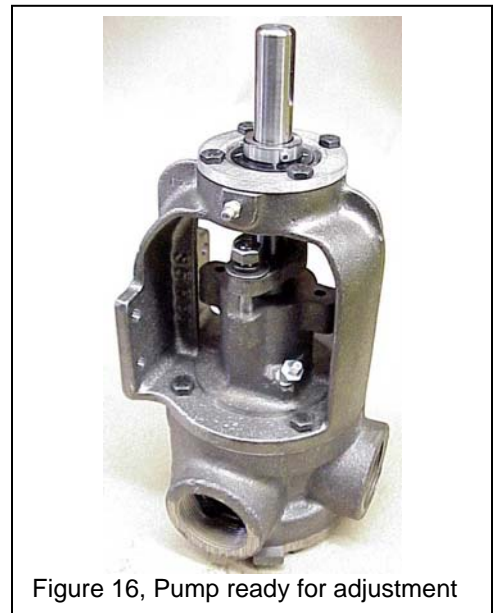

Figure 16, Pump ready for adjustment
11. Install the pump and components into the bracket and bearing assembly, figure 16, page 9.